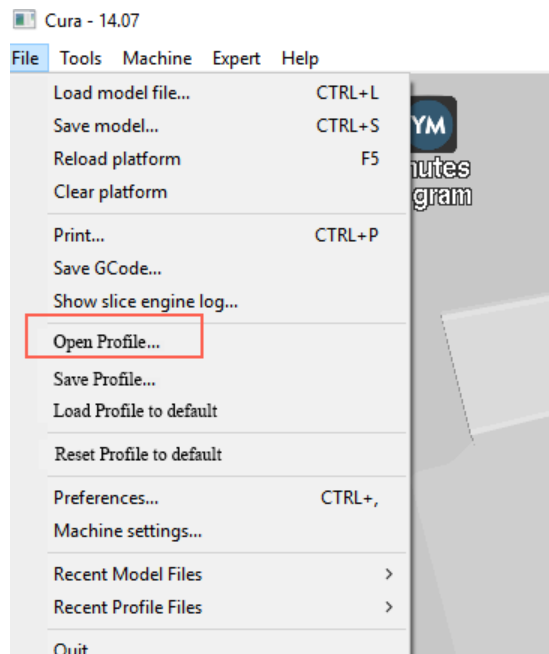

Figure 5.149 Import slice parameters
- Set slice parameters, and select **File > Open Profile** to import these parameters, as shown in Figure 5.149.